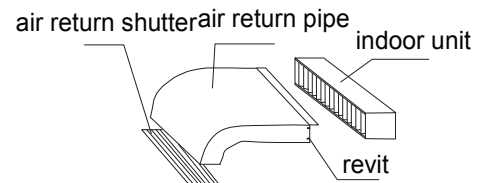

Fig.1
(1) Cut a hole on the wall and put the connecting pipe and connecting thread into the PVC, which is purchased at the local shop. With a slight downwards tilt towards the exterior, the gradient should be kept at least 1/100, as shown in Fig. 1.
(2) Before cutting the hole, check if there are pipes or reinforcing steel bars at the rear of the hole. Making the hole in the place where wires or pipes should be avoided.
(3) Hang the unit on a fixed and flat roof. Unstable base will cause noise, vibration or leakage.
(4) Fix the unit support and change the connection pipes, connecting the shapes of wires and drainpipes so as to let them go through the wall hole.
Connect one side of the air return pipes to the air return port of the indoor units with rivets, with the other side connected to air return shutter, as shown in Fig. 1.